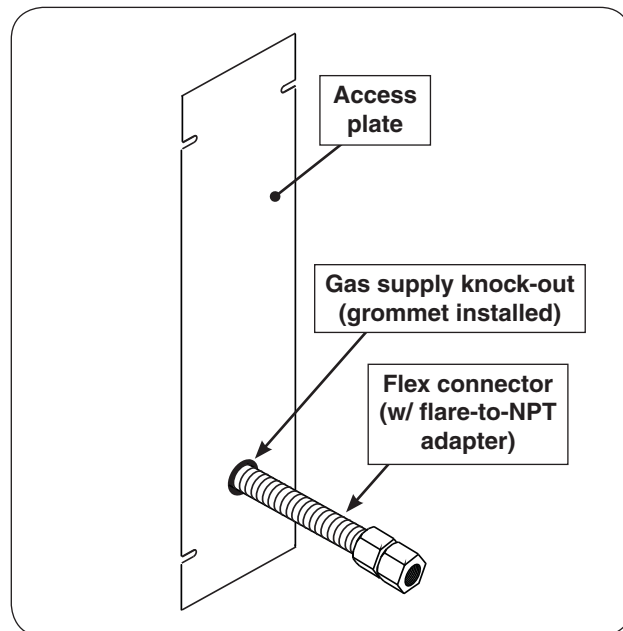

Fig. 17-1 Access plate view & install orientation
2. Remove the plastic grommet (attached to the flex connector) and insert it into the newly created opening. Then route the flex connector through the opening. See Fig. 17-1 and 17-2.